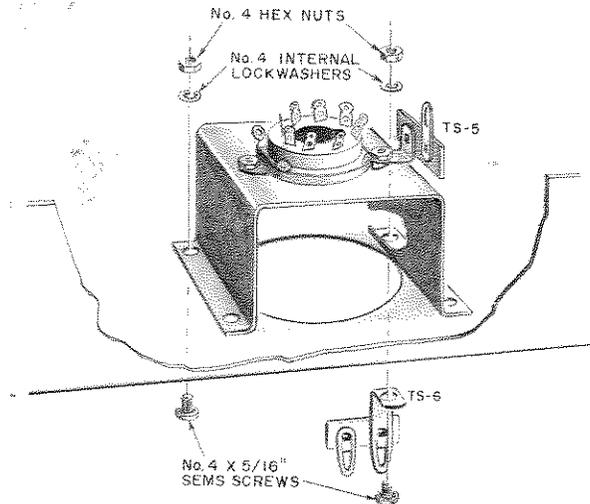

Figure 8. Mounting of Octal Socket and Bracket.
- (✓) Mount the tube mounting bracket, socket, and terminal strip assembly to the chassis through holes 9, 10, and 11 with No. 4 x 5/16" sems screws, No. 4 lockwashers, and No. 4 hex nuts, locating the assembly with the keyway and terminal strip as shown in Figure 8 and Pictorial 2.
- (✓) On the opposite side of the chassis from the tube mounting bracket assembly mount a 2-lug terminal strip TS-6 in hole 12 as shown in Pictorial 3 and Figure 8.